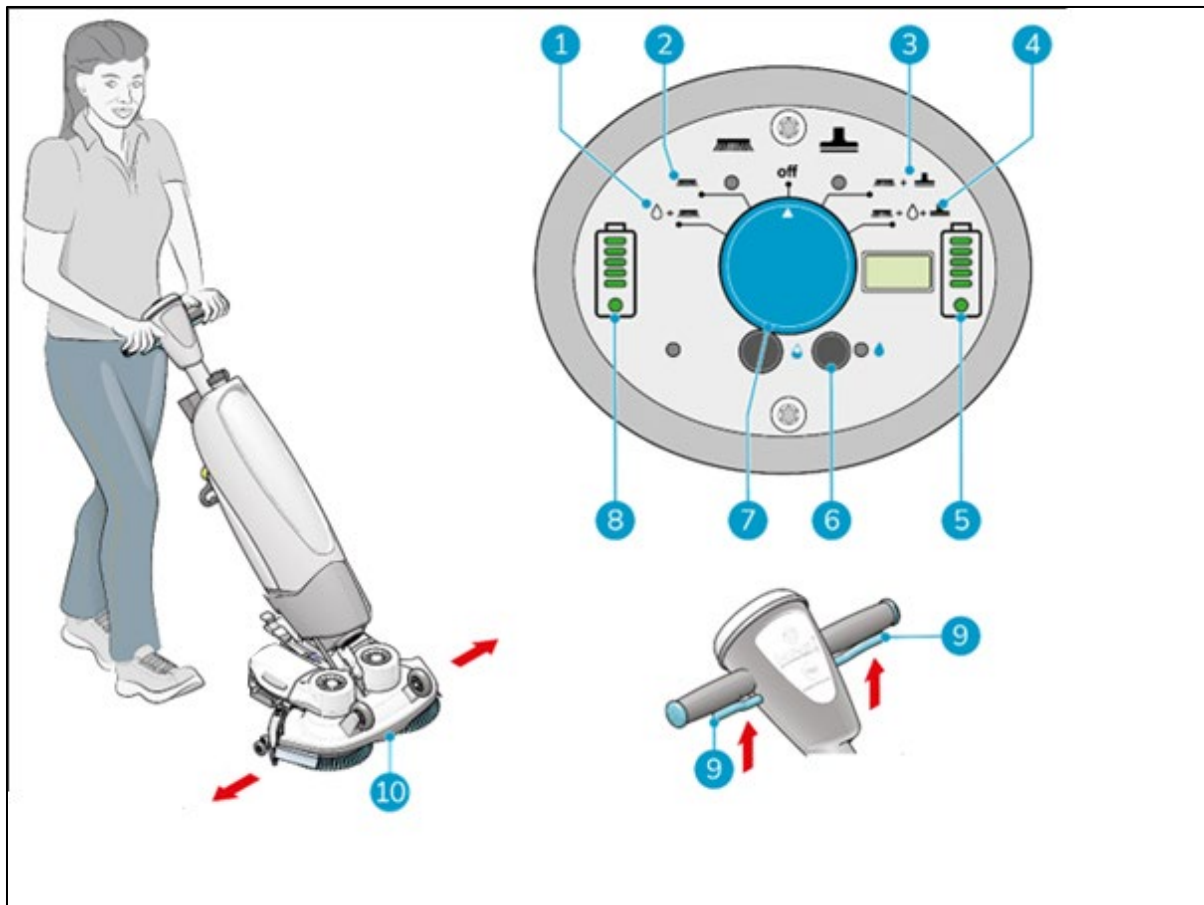

Figure 19
4. Stand behind the i-mop® XL plus. Choose your cleaning mode via the main switch (Figure 19, pos 7). This will also turn on the i-mop XL plus.
- MODE 1: Brush + water/cleaning solution (Figure 19, pos 1).
- MODE 2: Brush only (Figure 19, pos 2).
- MODE 3: Brush + vacuum (Figure 19, pos 3).
- MODE 4: Brush + water/cleaning solution + vacuum (Figure 19, pos 4).
6. Squeeze the trigger on the handle (Figure 19, pos 9).
9. Steer by gently turning the handle left or right to move the scrub deck (Figure 19, pos 10).
10. Releasing the trigger (Figure 19, pos 9) will immediately stop the i-mop XL plus. The vacuum motor will stop after 3 seconds.